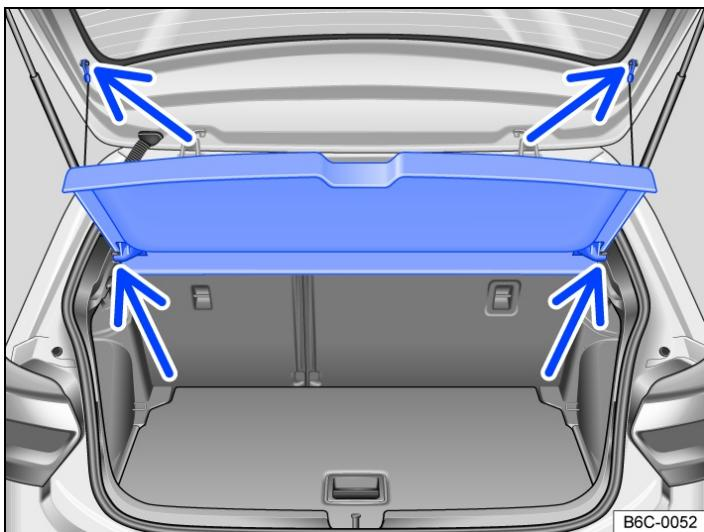

Fig. 1 In the luggage compartment: removing and installing the luggage compartment cover.
- Unhook the retaining straps from the boot lid *Fig. 1* (upper arrows).